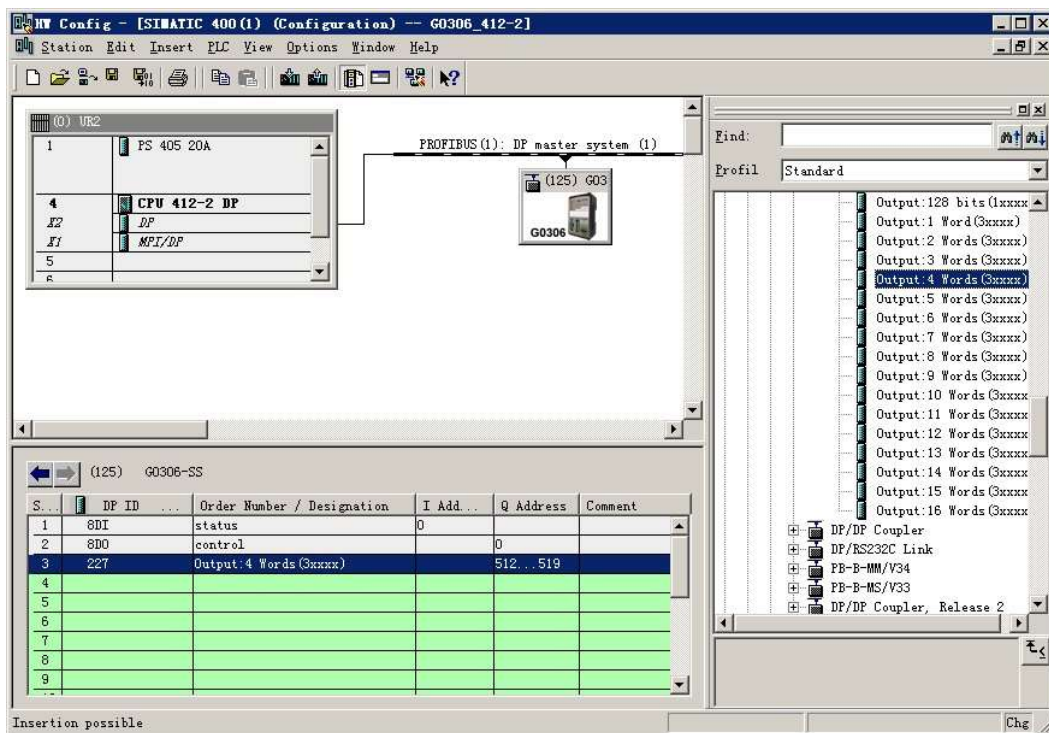

Figure 48 Add "Output:4 Words (3xxxx)" module
**a) Add "Output:4 Words (3xxxx)" module, as shown in Figure 48:**